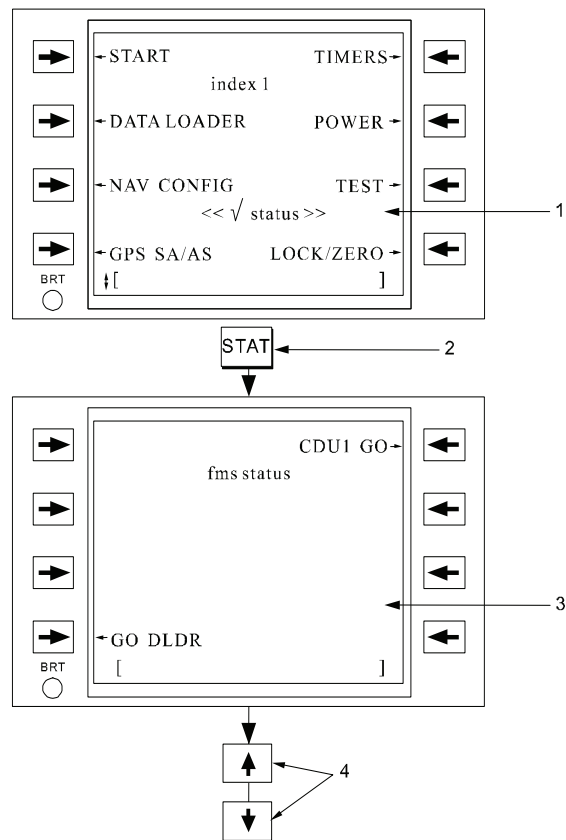

Figure 3B-132. Subsystem Status Page
(3) *System Status Page.* The Status pages display the status of all the LRU's in the system and provide access to the individual LRU detail status pages. Check marks designate which LRU caused the \surd STATUS annunciation when a failure is detected. The LRU check mark is cleared when the detailed Status page for the failed LRU is accessed. Refer to Figure 3B-132 and Table 3B-96 for the operations of the system status page.